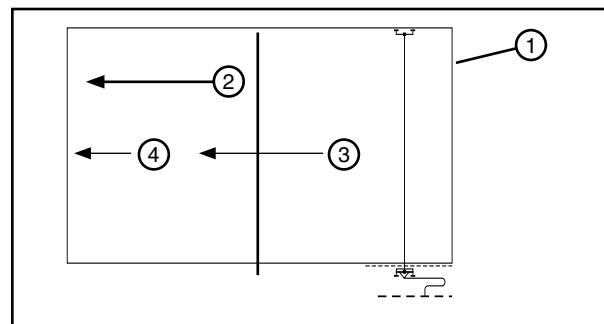

Figure 35-2 1. Field 2. Direction of Travel 3. Wet Deep 4. Wet Shallow
3. The system direction is reversed, the percentage timer is set to the desired application rate and the system is run wet (irrigating) to the middle of the field. See figure 35-2.
4. At the middle of the field, the percentage timer is set to 100% and the system continues to run wet to the original end of the field. See figure 35-2.